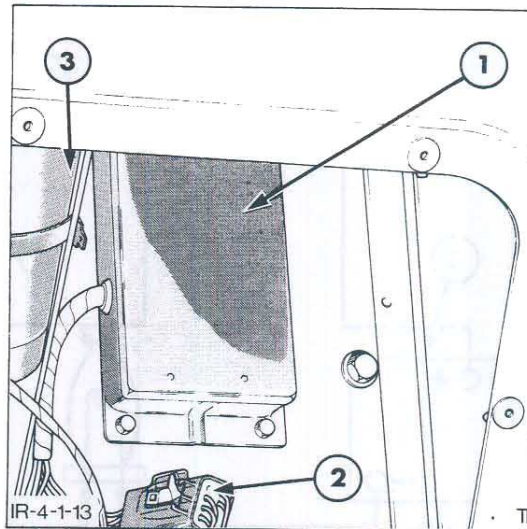

Figure 35
2. Withdraw the retaining bolts and remove the modulator unit, Figure 35.